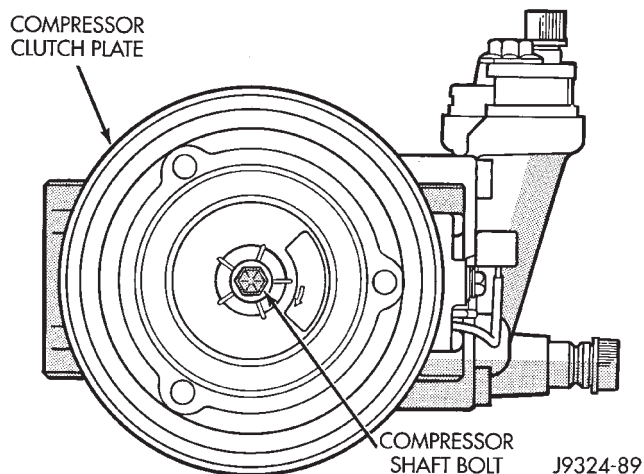

Fig. 21 Compressor Shaft Bolt
(1) Disconnect and isolate the battery negative cable.
(2) Remove the compressor shaft bolt (Fig. 21). A band-type oil filter wrench may be used to aid in securing the clutch during bolt removal.